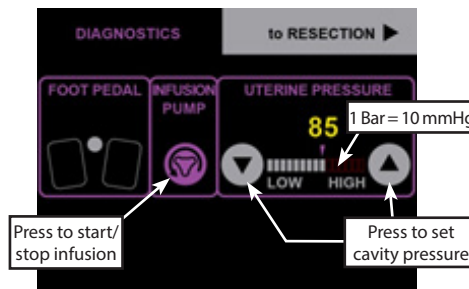

Figure 31
- Set the desired cavity pressure on the touch screen of the Controller (Fig. 31) by pressing the up arrow in the cavity pressure box. The cavity pressure can be adjusted at any time during the procedure. A cavity set pressure higher than 45 mmHg is REQUIRED to start infusion.
2. If there is no kink on the Filter Tube turn off infusion by deactivating the infusion pump button on the touch screen of the Controller (Fig. 31).
1. Immediately before the removal of the Endoscope and Resecting Device from the uterine cavity, turn off saline infusion by pressing the "infusion pump" button on the touch screen of the Controller (Fig. 31).